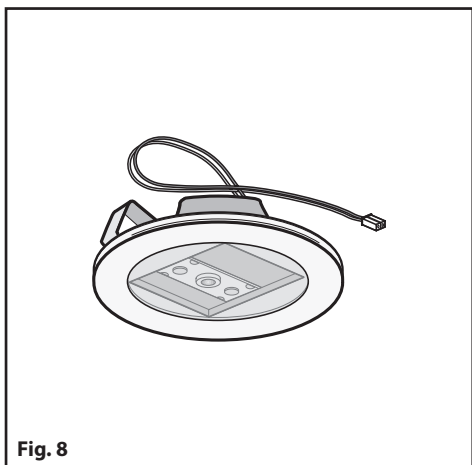

Fig. 8
• Replacing LED lamps (Fig.8):